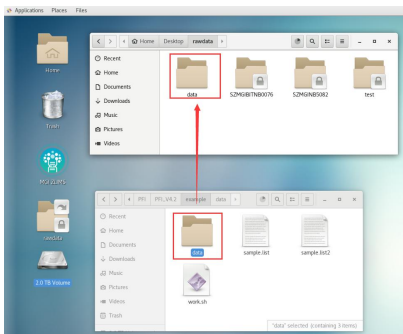

Figure 3-18 Step 2 for data uploading
- 2) Use the left mouse button, select the folder containing the data in the **[Mounted mobile storage device directory]**, and drag it to the **[rawdata]** directory (Figure 3-18):